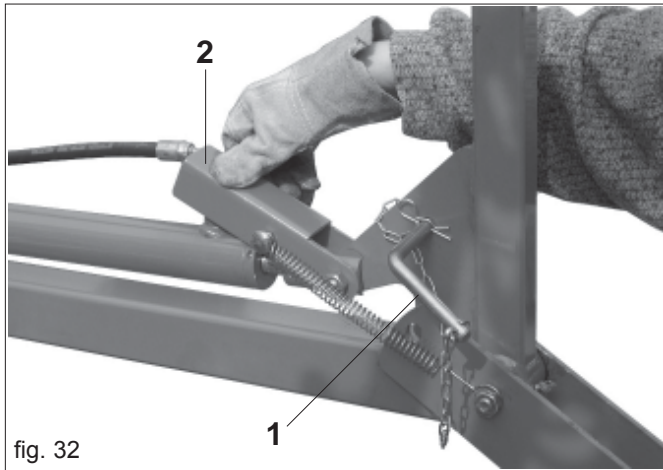

fig. 32
- 2) Release the securing bolts, put them in the place provided (1 Fig. 32) and lower the clamp along the cylinder (2 Fig. 32).